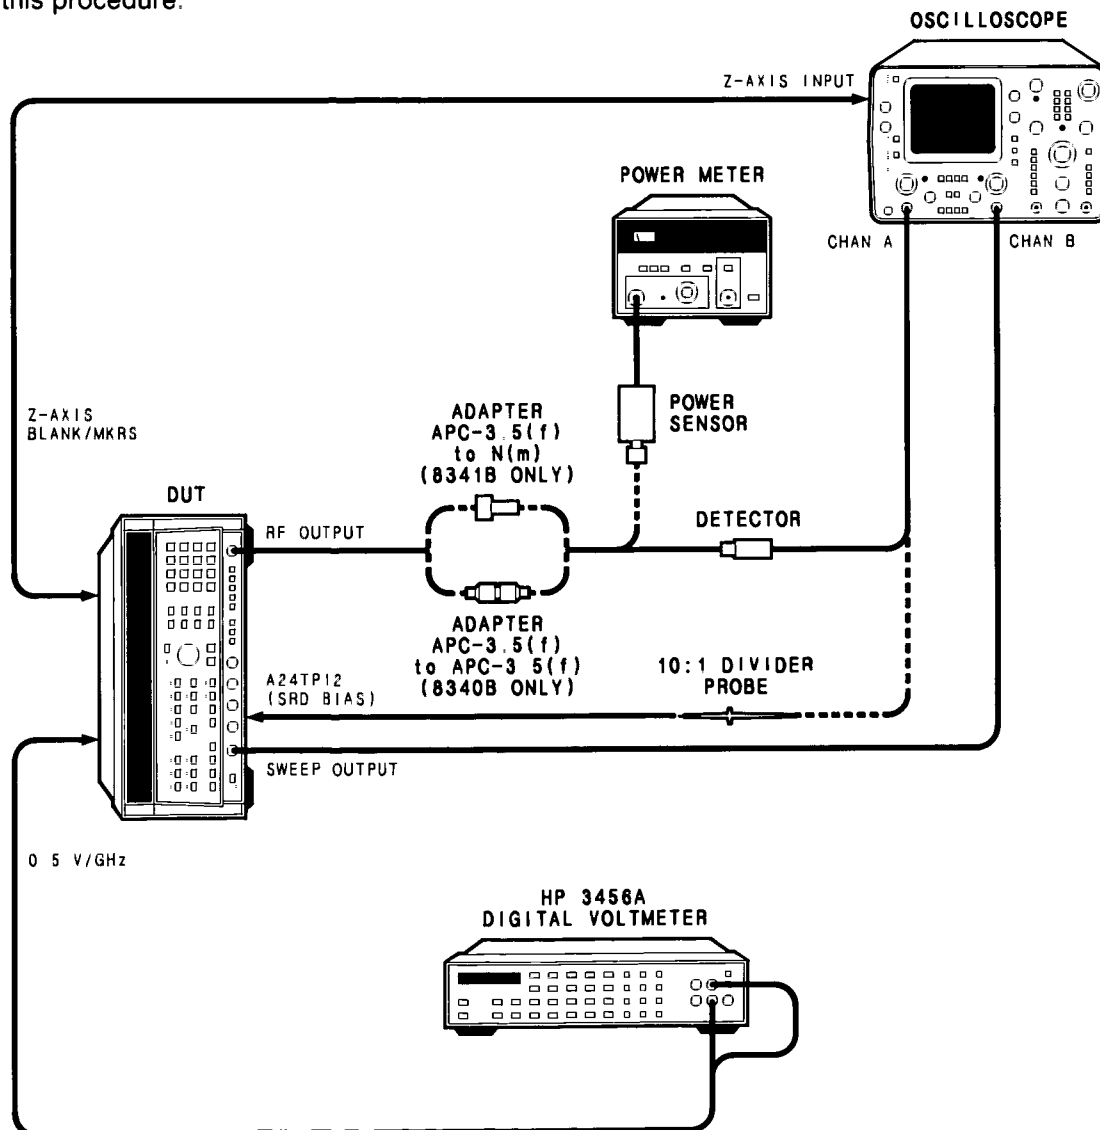

Figure 5-40. Unleveled RF Output Adjustments Setup
1. Place the DUT in the test position and connect the oscilloscope and detector as shown in Figure 5-40. Connect the DVM to the DUT's rear panel 0.5 V/GHz output BNC. Switch the DUT's LINE switch ON and allow the equipment to warm up for one half hour.
9. Connect the oscilloscope and detector as shown in Figure 5-40. Set the oscilloscope to A vs B mode, horizontal sensitivity (CHAN B) to 1 V/Div dc, and vertical sensitivity (CHAN A) to 0.05 V/Div dc. Adjust the horizontal and vertical position controls to view the entire swept RF output response on the oscilloscope. Readjust the vertical sensitivity if necessary so that the trace covers the maximum number of divisions possible.